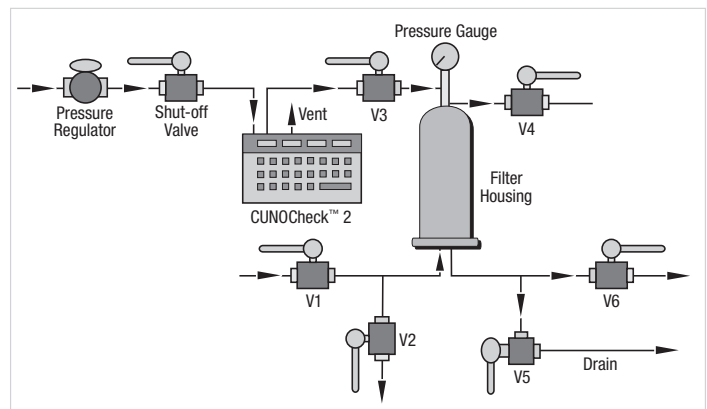

Figure 4. BPT (automated method).
The CUNOCheck™ 2 Automated Integrity Tester can be used to perform a BPT. When using the CUNOCheck 2 Automated Integrity Tester, follow the installation instructions for connecting the unit to the upstream valve as shown in Figure 4. Consult the appropriate 3M Purification Inc. literature for the filter cartridge bubble point value for the filter to be used and program this value into the CUNOCheck 2 Automated Integrity Tester when requested during the test set-up.
### 3. Procedure (Automated Testing — Figure 4)
- A. Configure the system as shown in Figure 4.